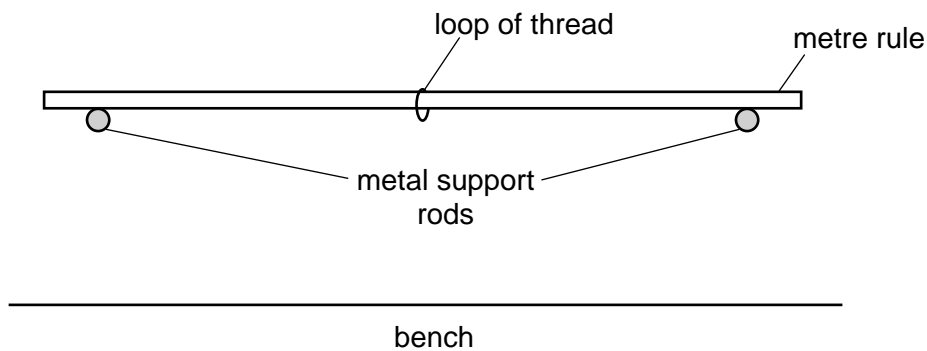

Fig. 4.1
- 1 The candidate will use the metal support rods to support the wooden metre rule, as shown in Fig. 4.1.